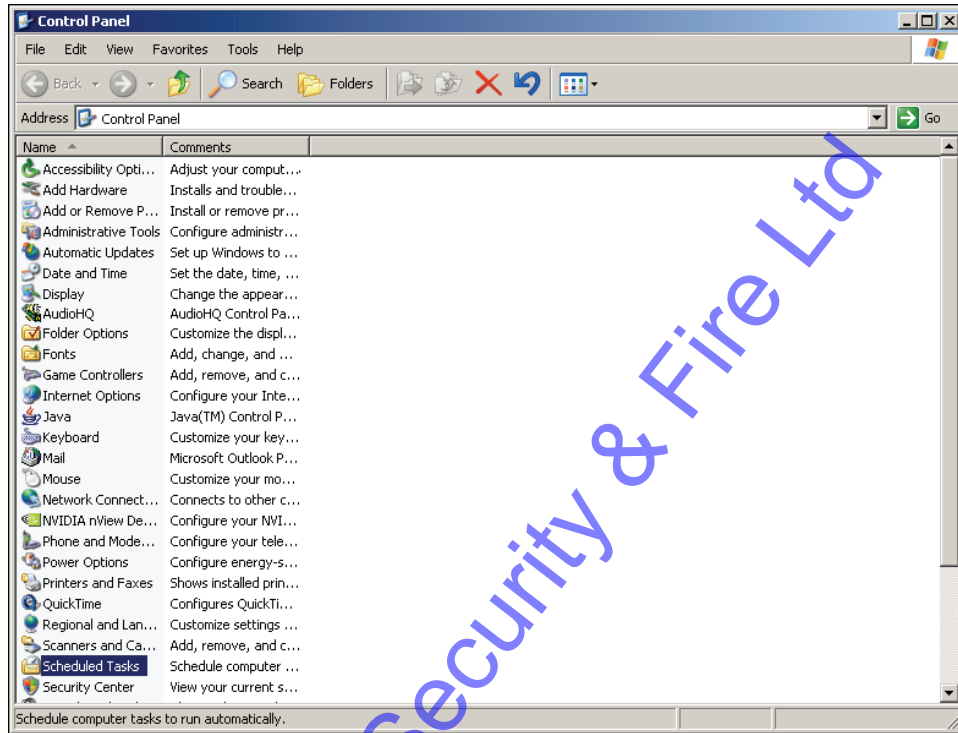

Figure 5-23: Control Panel Window
2. Click the **Control Panel** menu option. The Control Panel window appears (see Figure 5-23).